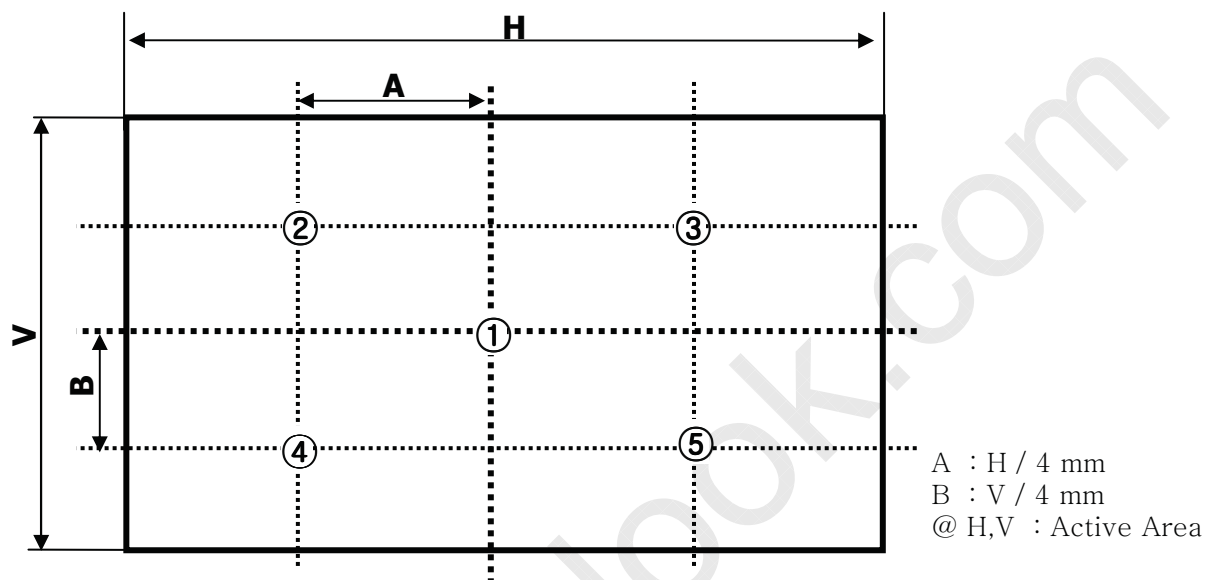

FIG. 2 Measure Point for Luminance
2. Surface luminance are determined after the unit has been 'ON' and 1 Hour after lighting the backlight in a dark environment at  $25 \pm 2^\circ\text{C}$ . Surface luminance is the luminance value at center 1-point across the LCD surface 50cm from the surface with all pixels displaying white. For more information see the FIG. 2.
For more information, see the FIG. 2.